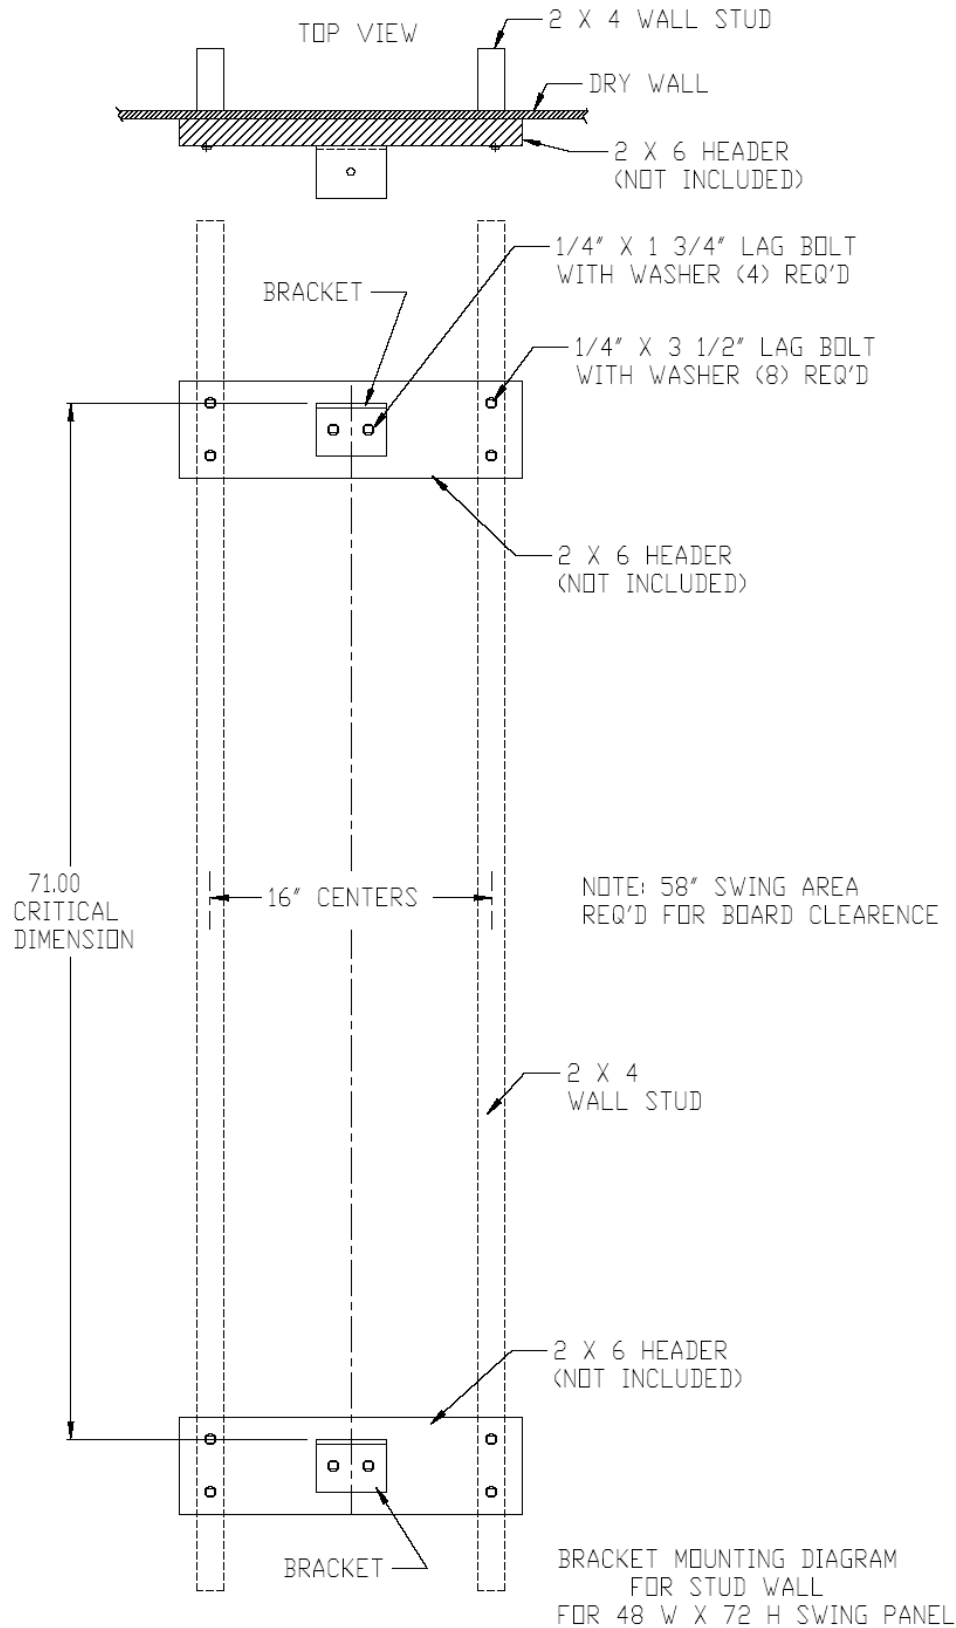

FIGURE 1-4
Note: Before starting step 6, it will be necessary to determine if your walls are plumb and structurally sound. It may be necessary to install some type of shim system or header for either or both, top and bottom wall brackets. (For 2" x 4" studded walls refer to figure 1-4 for header installation.)
Step 6. Bottom wall mount bracket Installation for concrete walls (refer to figure 1-1, 1-2 & 1-4): Each bracket/angle has been pre-drilled for wall and panel attachment. You will be installing your bottom bracket first. **A)** Determine the appropriate height you want to install off the floor or work surface. **B)** Using one angle bracket as your template, with surface having only one hole on top and flat surface with two holes against the wall at the desired height. **(Avoid mortar joints between concrete blocks.)** **C)** Making sure wall mount bracket is level; mark both hole locations on the wall. **D)** Using 3/16" masonry bit and hole location markings on the wall, drill two holes 1-1/4" in depth. **Do Not Ream Out or Oversize the holes** **E)** Align bracket back over holes drilled and using a #2 Phillips head bit and electric drill set at medium speed, install (2) 1/4" x 1-1/4" masonry screws. **. WARNING: Over-tightening could cause holes to become oversized. If holes become enlarged, you must properly repair and re-drill, relocate mounting brackets or install a wood header.** For 2 x 4" studded walls refer to figure 1-4 for installation.
When installing a system to other types of wall structures it is recommended that a 2" x 6" header be securely installed to multiple studs and that 1/4" lag bolts be used in place of the supplied masonry bolts to attach wall brackets. (Refer to figure 1-4 for header installation)